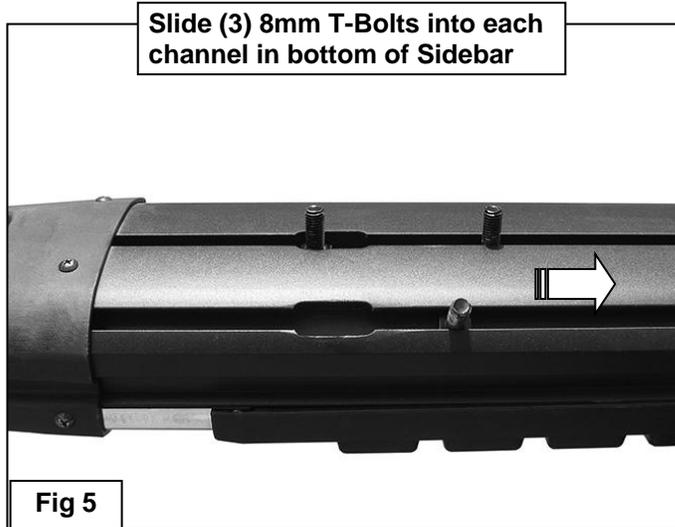

Fig 5
5. Line up the front of the Sidebar approximately 2" back, (or locate as desired), from the front wheel opening. Attach the Sidebar to the Mounting Brackets with (6) 8mm Flat Washers, (6) 8mm Lock Washers and (6) 8mm Hex Nuts, **(Figure 5)**. Do not tighten hardware at this time.